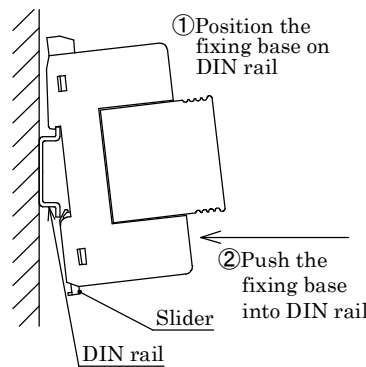

Fig.2 Installation on DIN rail
- a) Installation method (Ref.Fig.2) : After positioning the fixing base on DIN rail, push the fixing base into DIN rail until locking the slider on to the DIN rail.